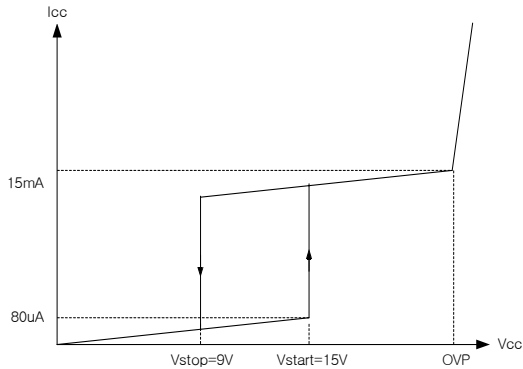

Figure 1. Strat up with hysteresis
**1. Start up :** To guarantee stable operation of the control IC, FS8S0965RCB has UVLO circuit with 6V hysteresis band. Figure 1 shows the relation between the supply current ( $I_{cc}$ ) and the supply voltage ( $V_{cc}$ ). Before  $V_{cc}$  reaches 15V, the FPS consumes only startup current of  $80\mu A$ , which is usually provided by the DC link through start-up resistor. When  $V_{cc}$  reaches 15V, the FPS begins operation and the operating current increases to 15mA as shown. Once the control IC starts operation, it continues its normal operation until  $V_{cc}$  goes below the stop voltage of 9V